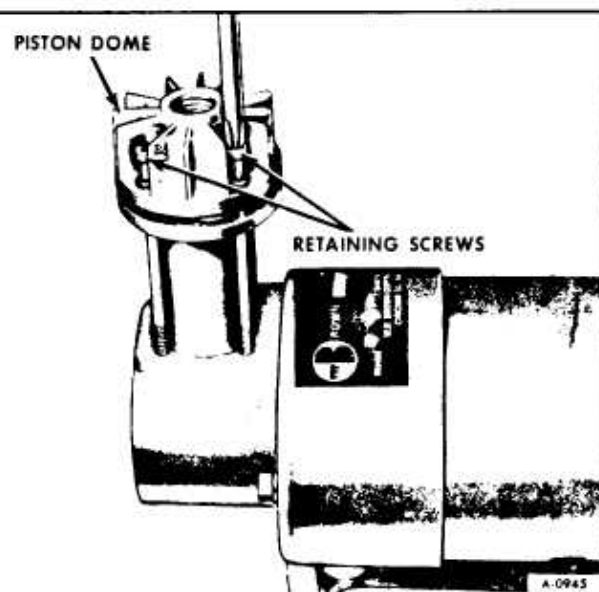

Figure 24—Removing Screws From Piston Dome
2. Remove four screws from piston dome as shown in Figure 24. Remove piston dome and its gasket. Remove valve plate and its gasket.